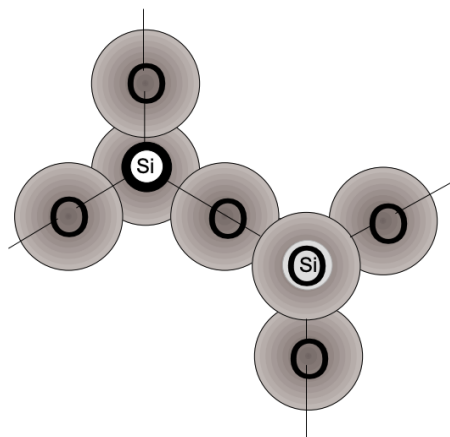

Figure 4 Basic Si - O - Si - units as established with  $sp^3$  hybridization of Si
Upon cooling of liquid "glass" we observe that  $\Delta V/\Delta T$  (the contraction with lowering of T) changes. This may be seen by following the three basic steps in the production of glass: (1) the melting of quartz sand (minute crystals of silica), (2) the shaping of the glass while in a viscous state and (3) the controlled cooling of the shaped article. The  $\text{SiO}_4$  tetrahedra in the sand (crystals) are arranged in an ordered pattern (fig. 4), but in the molten state the crystal matrix breaks up into strings and rings of tetrahedra in irregular patterns (fig. 5). Because the temperature is very high, the groupings continually break up and reform, making the mass fluid.